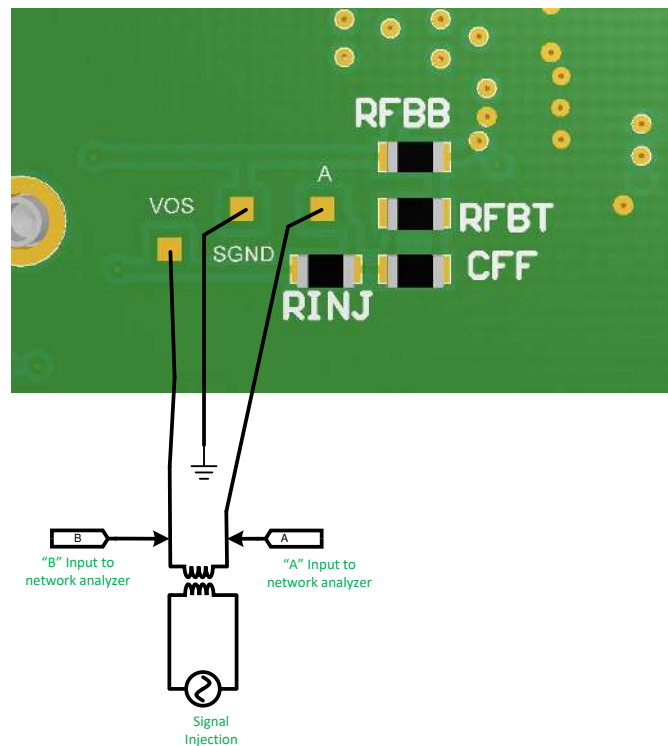

Figure 5. FRA Setup
- **OPEN PADS** - Connections for frequency response analyzer (on bottom of board) to take Bode plots. See Figure 5 for details of connections.
Loop gain measurements (Bode plots) can be made using the setup shown in Figure 5.